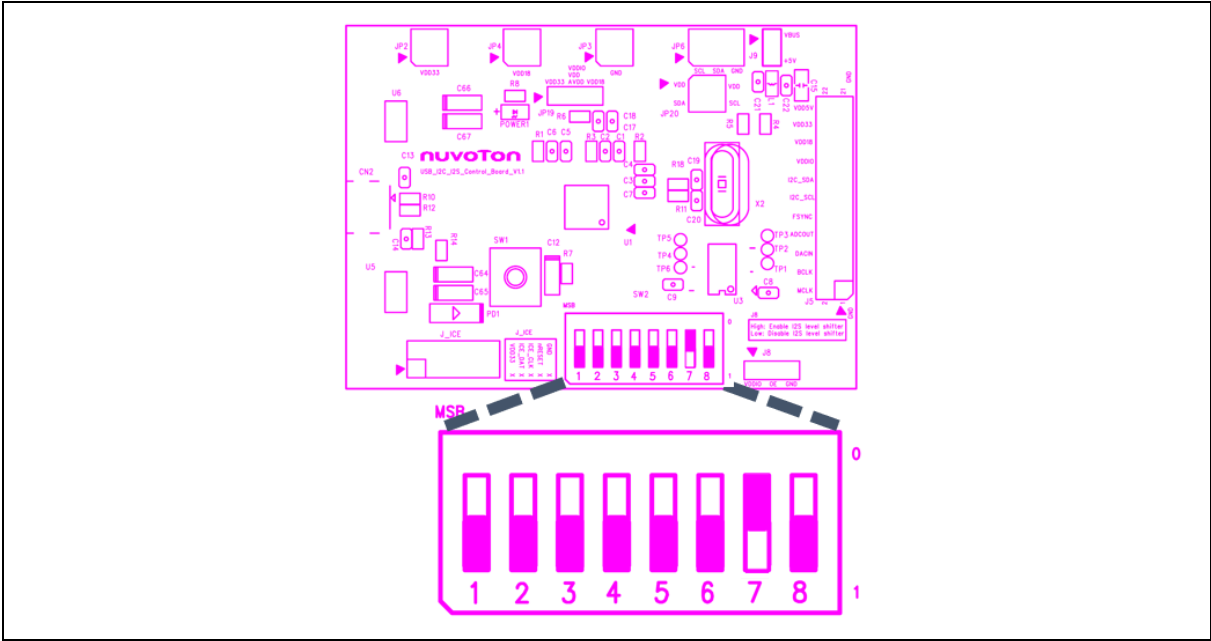

Figure 2-3 PIN Status of NU-NAUSB2I2C SW2
- 1. Confirm that pin 7 of SW2 of NU-NAUSB2I2C is high and the rest are low level, as shown in Figure 2-3.